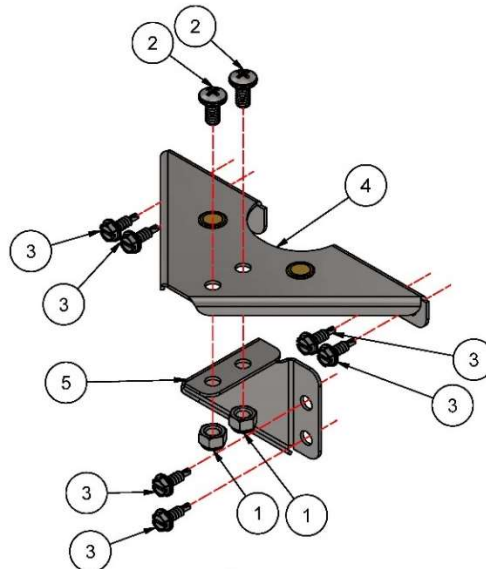

Figure 19
5. For kennels deeper than eight-foot, an additional gusset is required at the side panel connection point. This gusset may or may not be preassembled from the factory. To assemble see Figure 19.